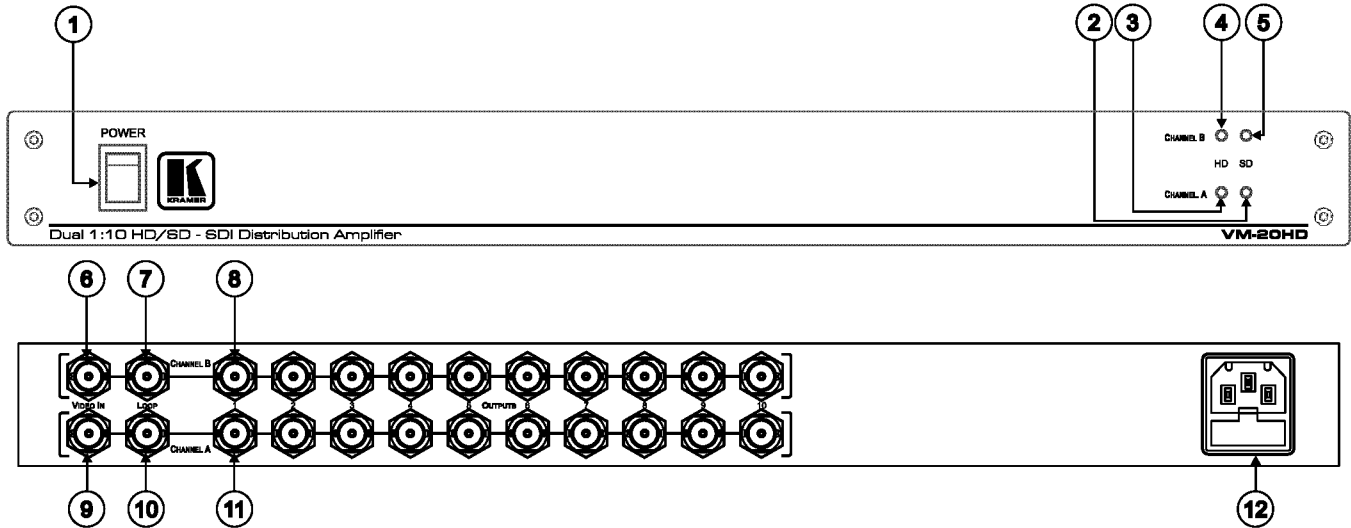

Figure 1: VM-20HD Dual 1:10 HD/SD - SDI Distribution Amplifier
*Figure 1 and Table 1 define the **VM-20HD Dual 1:10 HD/SD - SDI Distribution Amplifier**.*